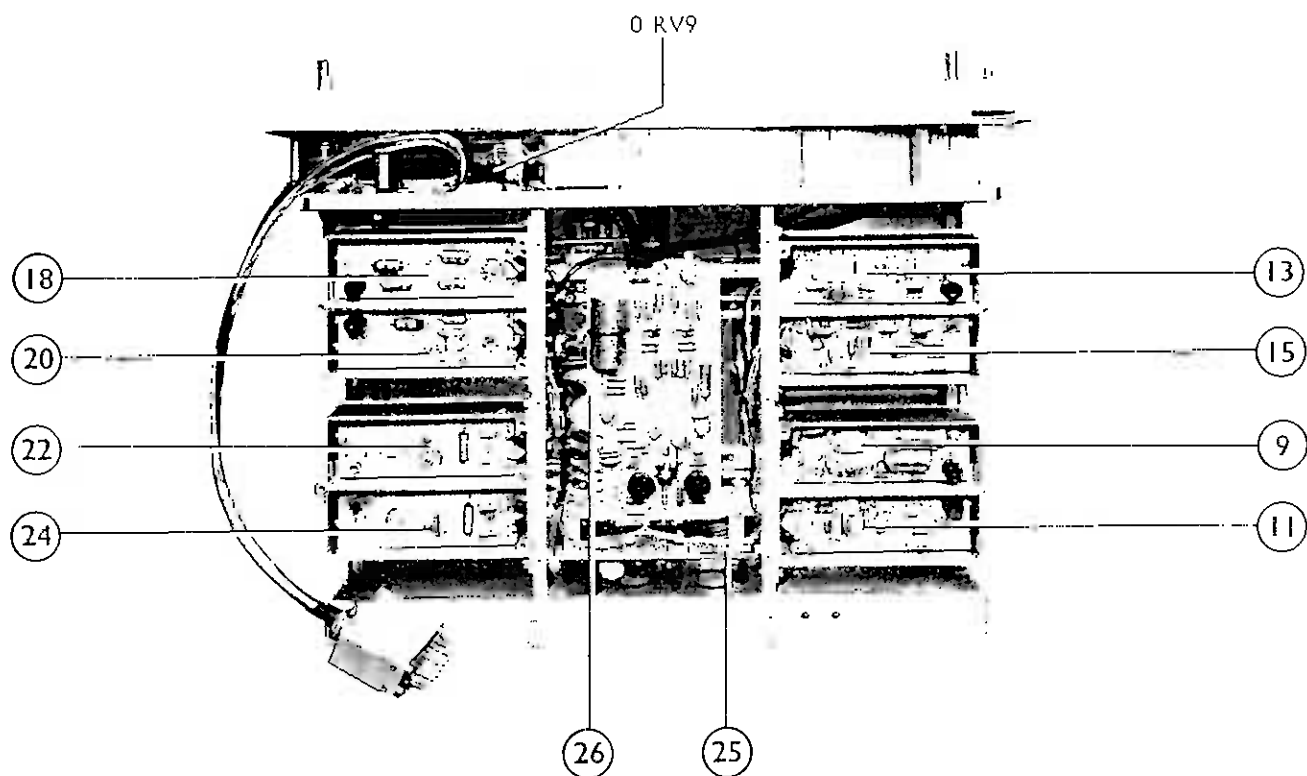

Fig. 4.3 R.F. unit with covers removed top
- (c) With the r.f. unit right way up, extract the two 6 BA screws that secure the support brackets to the top edge of board ⑫
- (d) Withdraw the three 6 BA screws that secure the brackets on the bottom edge of board ⑫ to the main drive shaft rear support plate.
Oscillators and output filters; boards ⑨ to ⑭ : These boards are contained, in pairs, in cast boxes bolted on either side of the r.f. unit; oscillators on the left and output filters on the right. See Figs. 4.3 and 4.4. Access to the component side of each board may be obtained by removing the cover plate (secured by three 4 BA screws) on the outside face of the appropriate box. To get at the print side of a board remove the 6 BA screw and two 8 BA nuts that hold the board in position and swing it up and clear of the box.